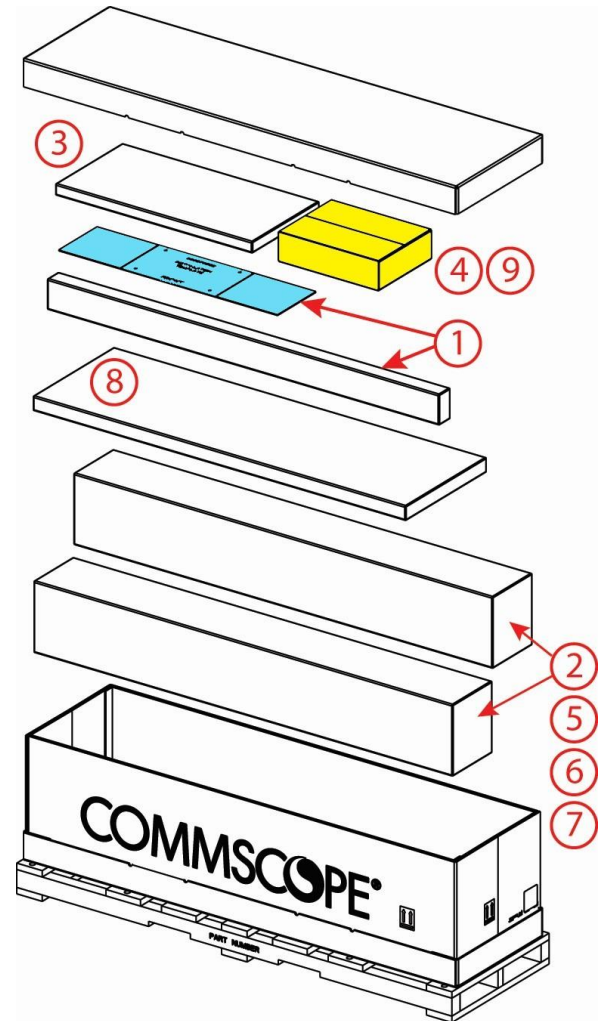
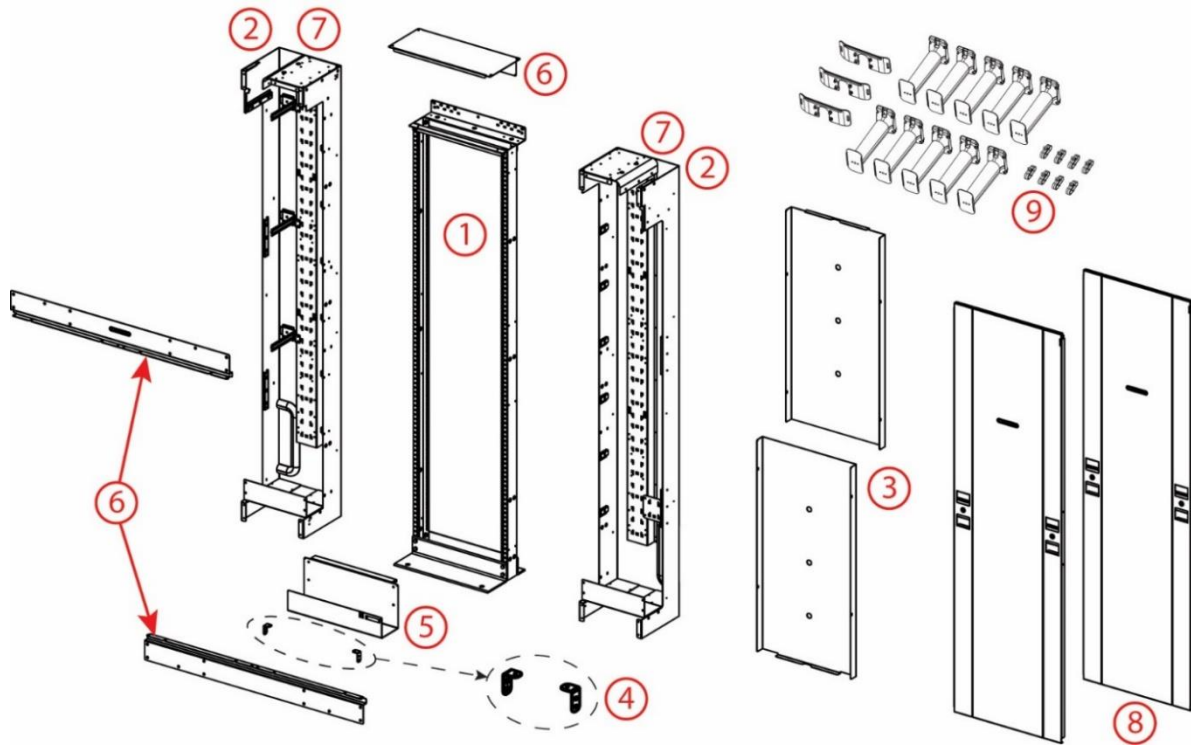

Figure 2. Propel XFrame Unpacking
Figure 3. Propel XFrame Components
- Remove the accessories box and floor mounting template, highlighted in Figure 2. The accessories box includes the Quick Start Guide (TC-01001516-IP) and Installation Drawing (6601063115), which provides step-by-step assembly instructions.
- Carefully unpack the remaining boxed items as needed. The packaging component numbers in Figure 2 correspond to the assembly steps of the Installation Drawing (6601063115) and Figure 3.
The Propel XFrame can be installed on a concrete floor or raised floor. Installation involves the following main steps, where each step number corresponds to the numbered items in Figure 2 and Figure 3.